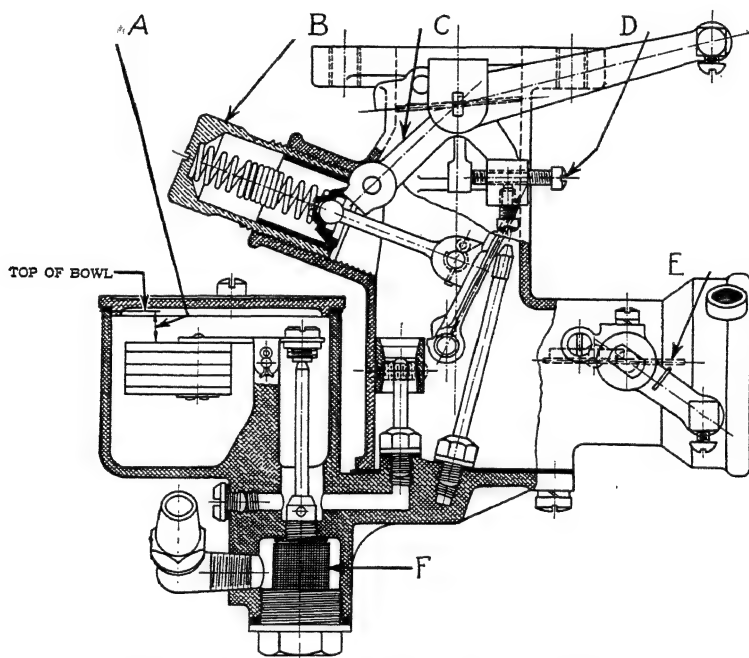

Fig. 87. Service Drawing of Model "A" Marvel Carburetor
**Servicing Model "A" Marvel Carburetor.** *Preliminary Adjustment.* Preliminary idle adjustment is secured by adjusting the brass sleeve *B*, Fig. 87. This is the air screw and by turning it outward a few notches at a time, it will be noted that the engine starts to slow down and falter. After this is noted, proceed to adjust further by turning the air-screw sleeve *B* inward a few notches at a time until a smooth and even operation of the engine is secured. As in all cases of carburetor adjustment, it is absolutely necessary to have the engine thoroughly warmed up before proceeding with this adjustment. If the adjustment is screwed in too far, the engine will start to roll and give other signs of being too rich. When the best idle speed with this adjustment is secured, it should be left at this point.
*Adjusting Float Height.* If flooding occurs or if for any other reason it appears evident that the float height and the gasoline level within the float chamber are not correct, the gasoline level should be checked. The correct setting for the float is  $\frac{1}{3}\frac{1}{2}$  inch from the top of the bowl to the top of the float with the float valve in its seat. Measure as indicated at *A* in Fig. 87. When inspecting the float, if there is evidence of the failure of the float or if it seems loggy, it should be replaced with a new one and then the dimensions given should be secured.
*Choker Valve Adjustment.* Much trouble oftentimes is encountered in carburetor adjustments which may be traced to an ineffective choker valve. This is not usually the fault of the carburetor but may be due to faulty operation of the choker-valve operating mechanism. In some cases dirt, dust, or rust prevents the proper operation of the control-valve mechanism. Two things are essential. The first is that when the choker is pulled, the butterfly valve must close fully. The second is that when the choker is pushed in, the choker valve must open fully, as shown by the dotted lines indicated by the arrow *E* in Fig. 87.